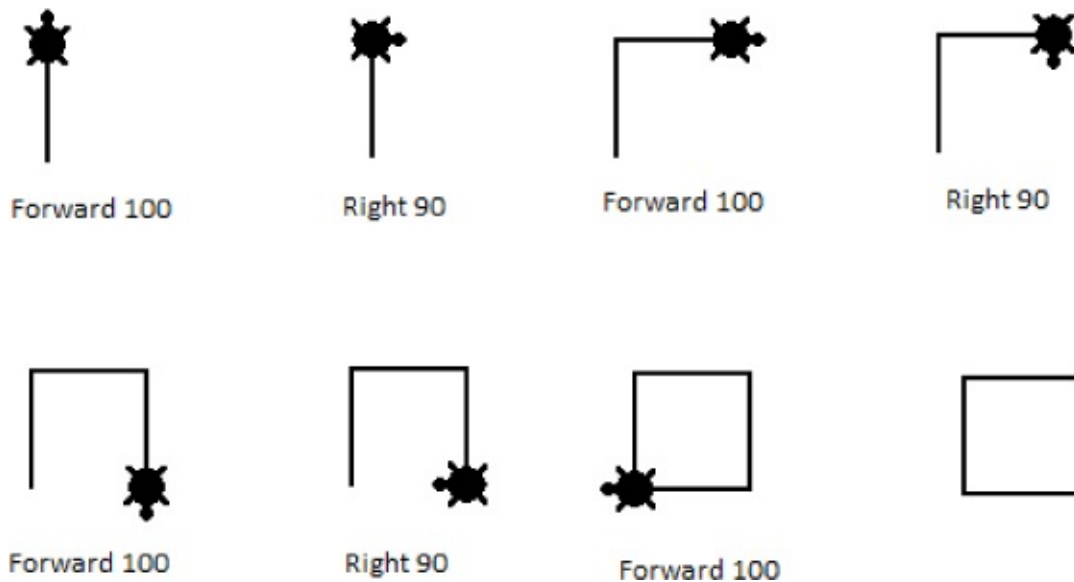

Figure 22.1 A square in Logo
FD is short for forward. The turtle is instructed to advance for 100 “units” and then make a right turn (RT) by 90 degrees. Then it is instructed to advance another 100 units and so on. The result? A square as shown in Figure 22.1.